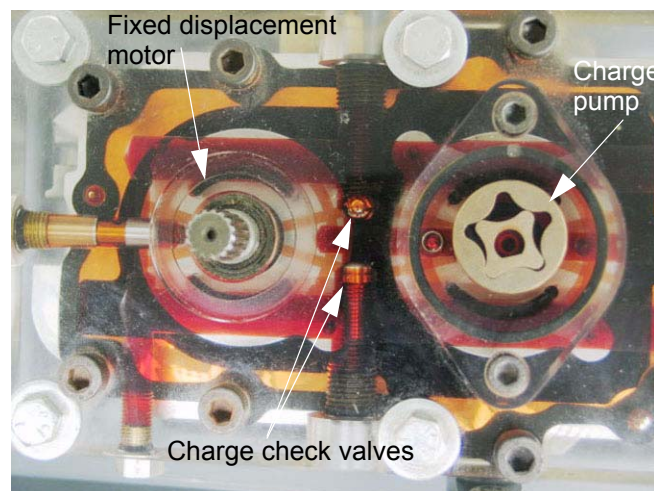

Figure 2.3
- 2.3. The input shaft also turns a gerotor style charge pump and an axial piston variable displacement hydraulic pump. See Figure 2.3.
**NOTE:** Figure 2.3 is a similar model hydrostatic drive unit with some see-through components.